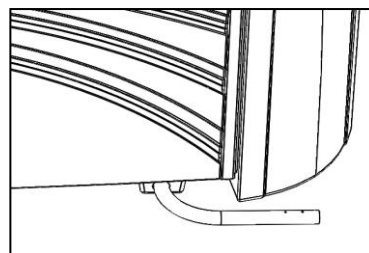

Figure 4
4. First, rotate the BASE TUBE so that it is pointing to the closest end of the spa as shown in Figure 4. Next, insert the thinner end of the SUPPORT TUBE all the way into BASE Tube. Do not use screws yet.
5. While the spa is not in use place the cover on top of the spa and snap all straps into the cabinet latches. To further protect against entry, lock each latch by quarter turning the key clockwise (fig 4). Store the key in a secure place.